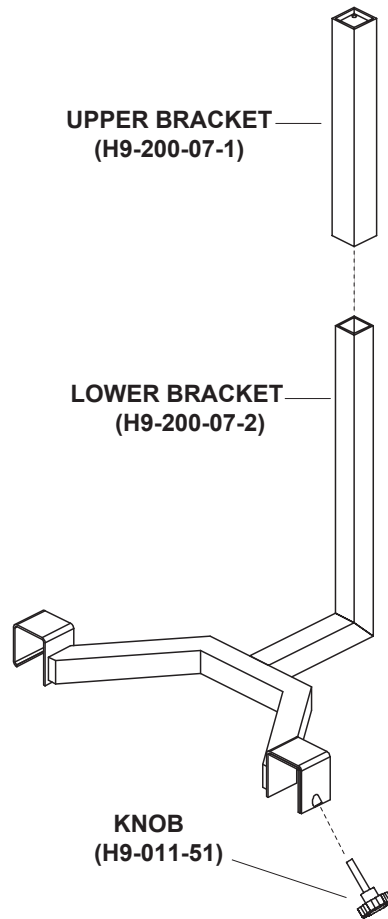

Figure 4. Tether bracket assembly
1. Slide the Lower Bracket into the Upper Bracket (Figure 4).
2. Loosely screw the knob into the threaded tube at the end of the bracket bar (Figure 4). Tighten the knob to secure the bracket to the Drager.